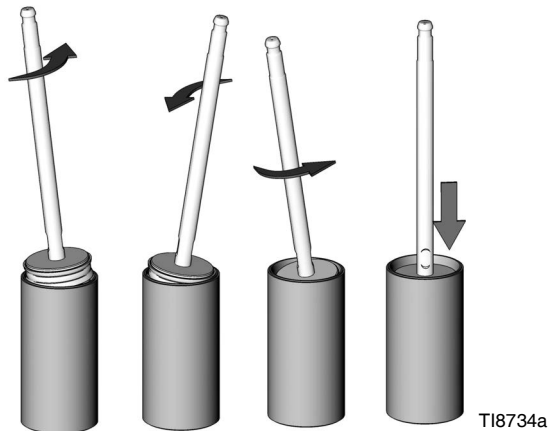

FIG. 9. Install Piston in Cylinder
6. Lubricate the inside of the cylinder (1). Slide the piston assembly into the cylinder (1). Rotate the piston assembly as shown in FIG. 9.